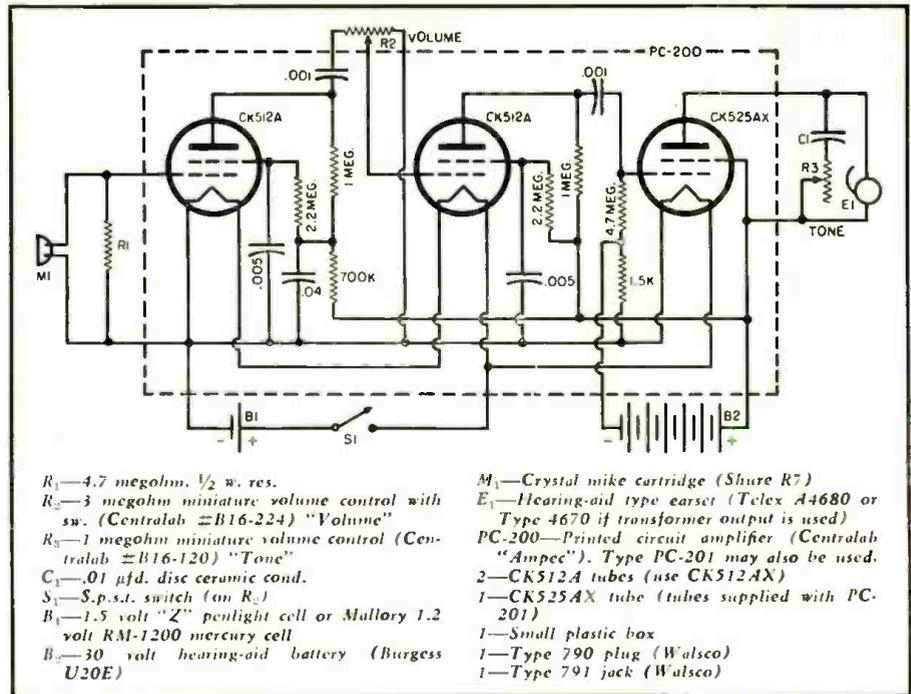

Fig. 3. Complete schematic. Circuit within dotted lines is a printed circuit amplifier.
Fig. 2. Alternate circuits for hearing aid shown in Fig. 3. (A) Choke output for crystal earset. (B) Resistor output for crystal earset. (C) Transformer output circuit, required for low impedance earset.
As can be seen by reference to the schematic diagram given in Fig. 3, the complete hearing aid consists of a microphone, a three-stage audio amplifier, and an earphone output, with power supplied by small batteries. The amplifier itself is a complete printed circuit unit, with the only connections required by the builder shown outside the dotted line rectangle, that is, the builder need only wire the leads to R_1 and the "mike," to the volume control, to the tone control and headset, and to the batteries and "on-off" switch.
Zenith television sets (in 1951) employed a keyed a.g.c. system which differed slightly from the foregoing circuit. The Zenith circuit is shown in Fig. 3. The video second detector is a germanium crystal, a 1N64. The detected video signal is developed across R_{61} (4700 ohms) and applied via L_{55} to the grid of V_{10} . Although the manufacturer labels this tube as a noise limiter and inverter, it is essentially an amplifier, with the signal which is developed at the plate being fed to a second video amplifier.